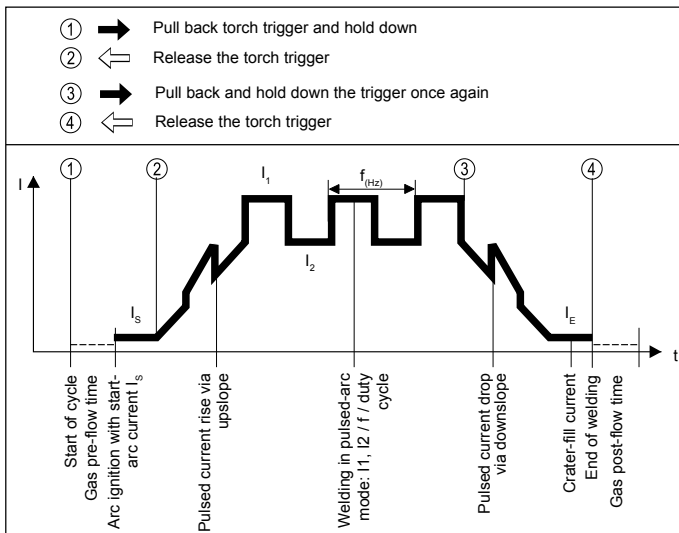

Fig. 16 Functional sequence in pulsed-arc welding operation using TR 50mc (4-step)
- The downslope parameter is set directly on the power source. In the 4-step operating mode, the pulse phase begins as soon as the operator releases the torch trigger in the up-slope. As can be seen in Fig. 16, pulsing also takes place in the down-slope.